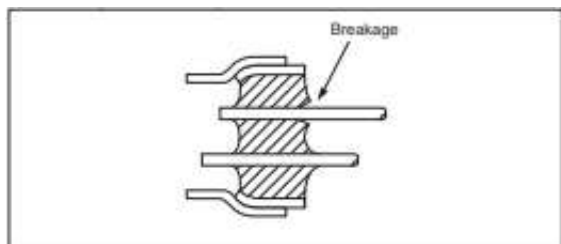

Figure 3
- (1) DO NOT pull the lead excessively if unbending a lead or removing a crystal unit. The excessive force may crack the glass and reduce the degree of vacuum. This may eventually result in deterioration of the characteristics and may also break the crystal chip (see Figure 3).